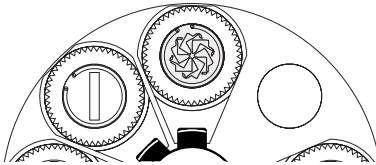

Fig.10
3. Turn the gobo wheel as indicated in fig.10 in such a way that the gobo to be replaced is on top.